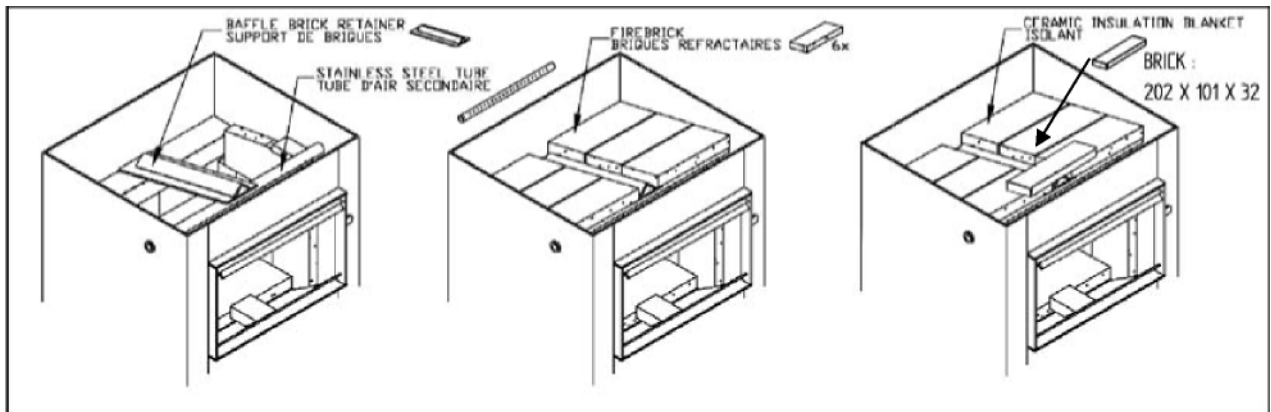

FIGURE 1
- 3- Place the baffle brick retainer up over the back duct and over the stainless steel tube so that the angled rib is on the top. Move it to the middle. See Figure 1.